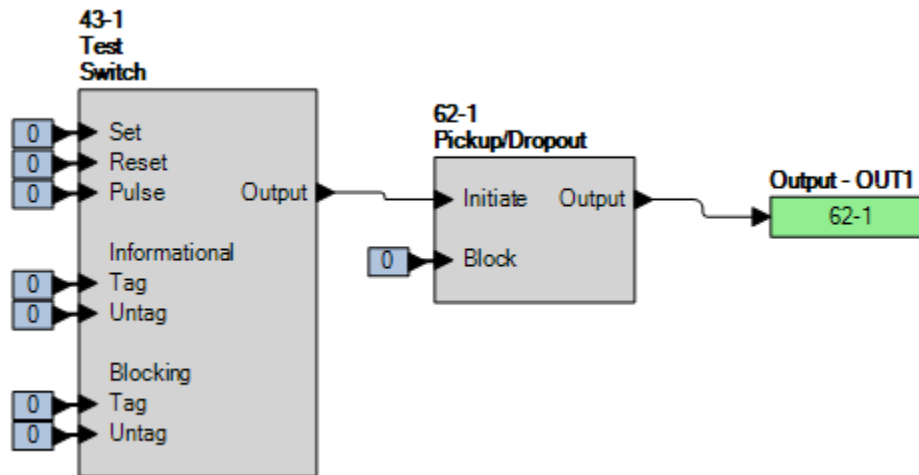

Figure 69-1. BESTlogicPlus Settings
Step 2: Use BESTCOMSP^{Plus} to configure the BESTlogicPlus programmable logic shown in Figure 69-1.
Step 1: Use BESTCOMSP_{lus} to send the operational settings in Table 69-2 to the BE1-11f. Retain the logic settings from Figure 69-1.
Step 1: Use BESTCOMSP_{lus} to send the operational settings in Table 69-3 to the BE1-11f. Retain the logic settings from Figure 69-1.
- Step 1:** Use BESTCOMSP*Plus* to send the operational settings in Table 69-4 to the BE1-11f. Retain the logic settings from Figure 69-1.
Step 1: Use BESTCOMSPi+ to send the operational settings in Table 69-5 to the BE1-11f. Retain the logic settings from Figure 69-1.